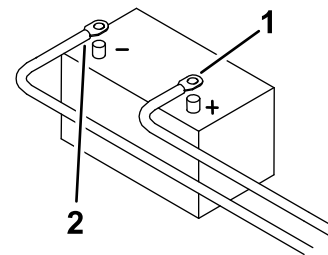

Figure 6
4. Connect the positive (red) ring terminal of the wire harness to the positive battery terminal of your vehicle (Figure 6). Secure the ring terminal.
5. Connect the negative (black) ring terminal of the wire harness to the negative battery terminal of your vehicle (Figure 6). Secure the ring terminal.